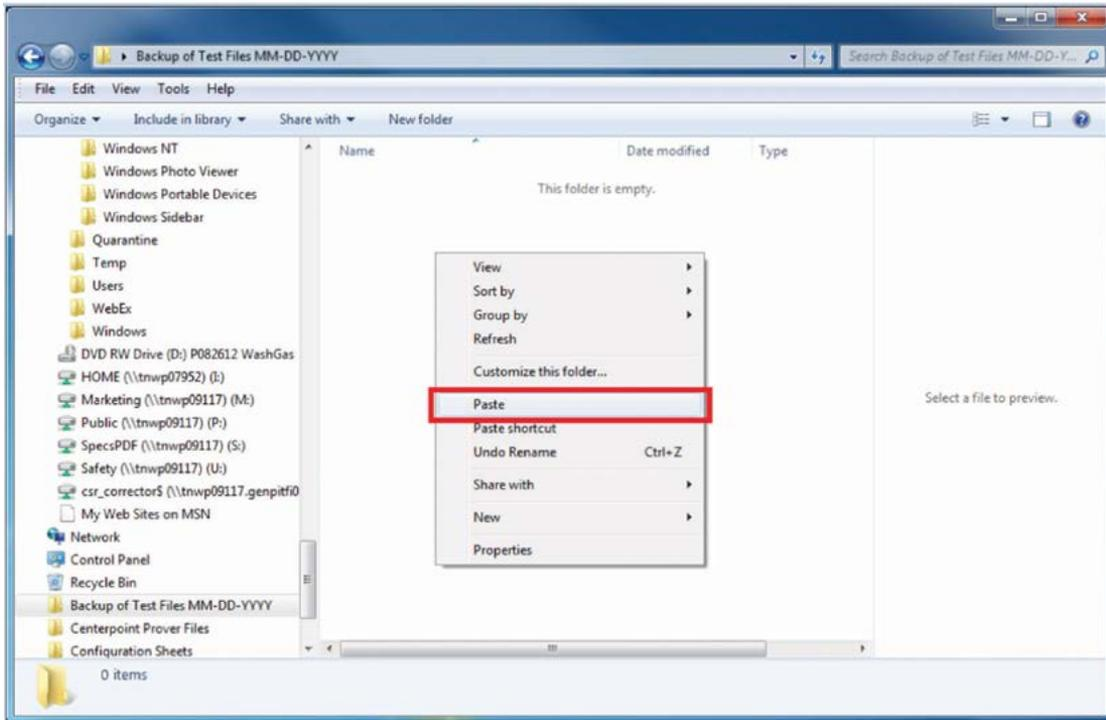

Figure 10: Paste Files into Folder
10. Double click the name of the new folder. In the blank space, right click and select “Paste” as shown in **Figure 10**.